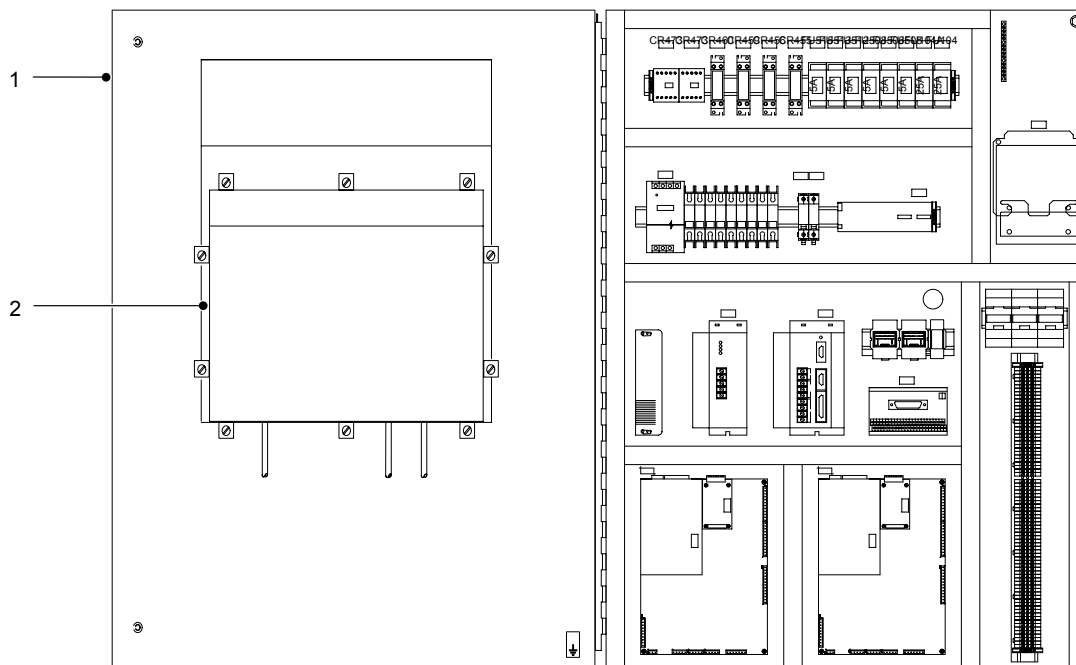

Figure 11 Accessing the Operator Interface
1. See Figure 11. Open the enclosure door (1).
2. Connect a mouse and USB-type keyboard to the VersaView PC (2).
11. Click on **Open File** (9) and select the desired *s19* file. Click on **Update PCI** (8).
12. The time and file loading progress appears in the Elapsed Time (4) and the File Progress (5) fields.
13. When the process is done, click on **EXIT** (6) to exit Windows Explorer.
14. Disconnect the keyboard and mouse from the VersaView PC (2).
15. See Figure 11. Close the enclosure door and cycle power to the PCI controller.
2. Maximize the **SerialCom** window (1).
3. See Screen 28. Touch either Unit 1 or Unit 2 in the **Config File Transfer** field (3) to save data from the applicable controller board.
4. Touch **Save Config File** (4). Using the keyboard, enter the name of the file to save in the file-name field. Touch **Save** (2).
5. When **OK-File Saved** appears in the field (5), minimize the **SerialCom** window (1).
7. See Figure 11. Close the enclosure door (1).
3. See Screen 29. Touch either Unit 1 or Unit 2 in the **Config File Transfer** field (3) to load data to the applicable controller board.
4. Touch **Load Config File** (4).
6. Wait for the PCI controller to update. When **Transfer Complete** appears in the field (5), minimize the **SerialCom** window (1).
8. See Figure 11. Close the enclosure door (1).